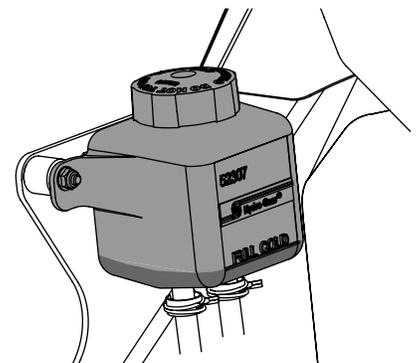

Figure 4-7
- Clean the reservoir cap and the area around the cap to prevent debris from contaminating the transmission oil. See Figure 4-7.
2. Turn the reservoir cap counter-clockwise to remove, then check the oil level in the reservoir. Oil should be visible at the bottom of the cup, but the oil level must NOT be above the "FULL COLD" line. See Figure 4-7. DO NOT FILL THE RESERVOIR.